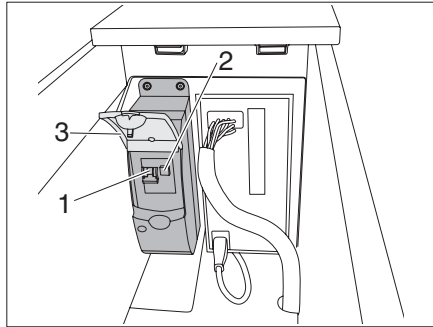

Fig. 69 230 V automatic circuit breaker
► Open the cover flap (Fig. 69,3).
The 230 V connection is protected by a two-pole automatic circuit breaker (Fig. 69,1).
- The residual current circuit breaker (Fig. 69,2) for 230 volts should be tripped once annually so that the mechanism does not "stick" and the tripping time is not extended.